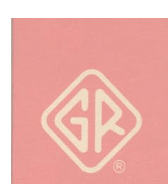

Figure 1. Type 1263-A Amplitude-Regulating Power Supply, Front View.
1.1 PURPOSE. The Type 1263-A Amplitude-Regulating Power Supply (Figure 1) is designed to operate General Radio Unit Oscillators or oscillators with similar power requirements. This Power Supply automatically varies the plate current supplied to an oscillator to maintain the r-f output voltage constant at a preset level. This constant output is of great advantage in frequency response measurements, and is particularly important when the oscillator frequency dial is mechanically swept so that the response can be plotted by means of an oscilloscope or recorder. The oscillator must have